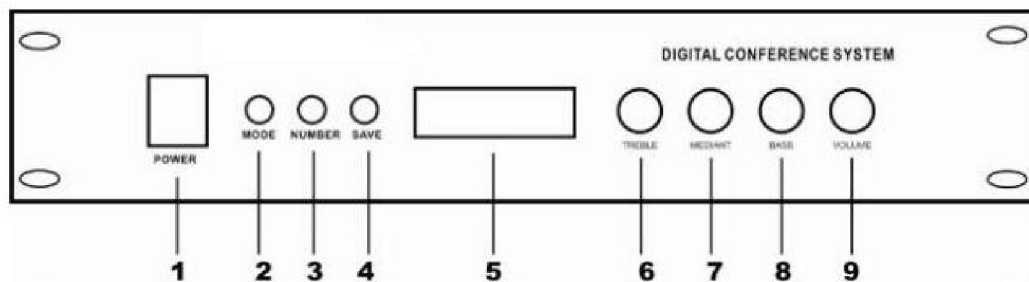

Fig.1
Turn on controller, the controller LCD will display current working mode (**fig1. ref.5**)
Using the **MODE** button (fig. 1 ref. 2), select the desired operating mode and press **SAVE** (fig. 1, ref. 4). If the mode requires a numeric limit of delegates, this can be selected pressing the **Number** button (fig. 1, ref. 3) and pressing **SAVE** to complete the setup.
- The controller starts the setup of the mic code by turn on the controller+ hold and press **Number** button (fig. 1, ref. 3)